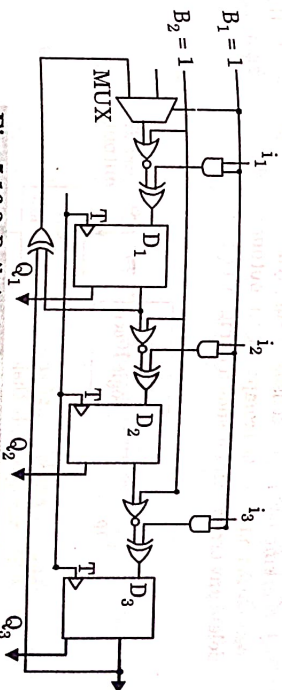

Fig. 5.16.3. Built-in-test-(BILBO) normal mode.
- In the normal mode, $B_1 = B_2 = 1$ and the storage elements are used independently by the circuit as shown in Fig. 5.16.3.